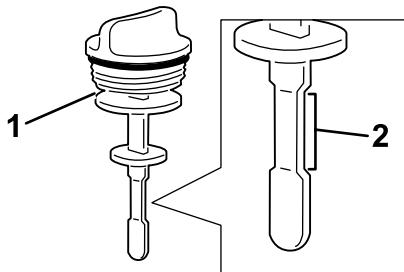

Figure 140
4. Remove the dipstick from the filler neck and check the fluid level (Figure 140).